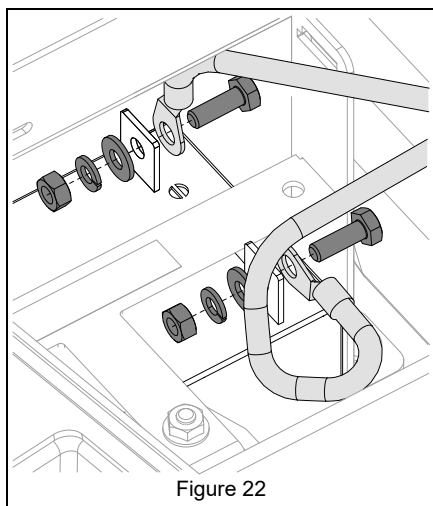

Figure 22
3. Disconnect the negative cable and then the positive cable from the battery. See Figure 22.